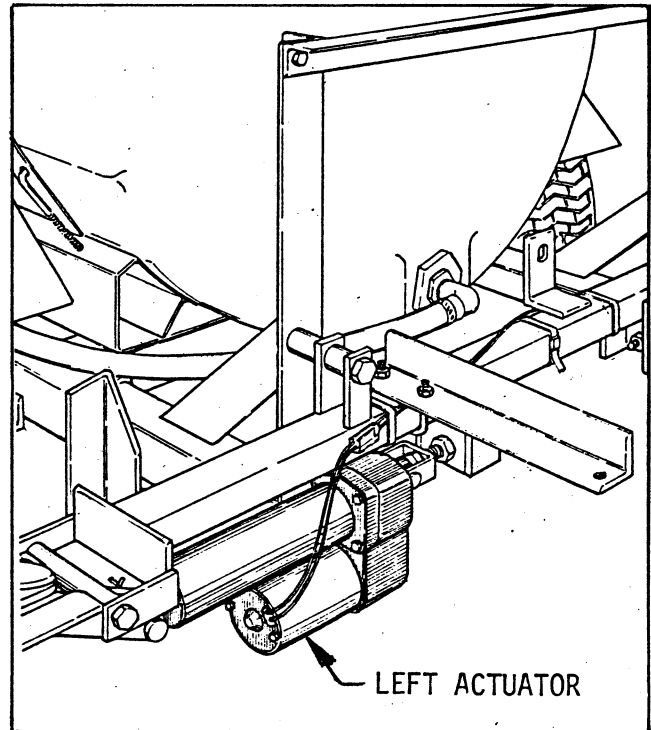

FIG. 1
■ If the Struts have been installed, (for use with a Manual Boom Frame) disassemble them and use the clevis pins and hair pin cotters to install the Electric Actuators as shown in FIG. 1.